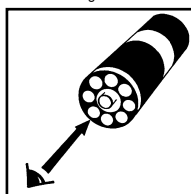

Figure 4
a. **Low Range Comparator (fig. 4):**